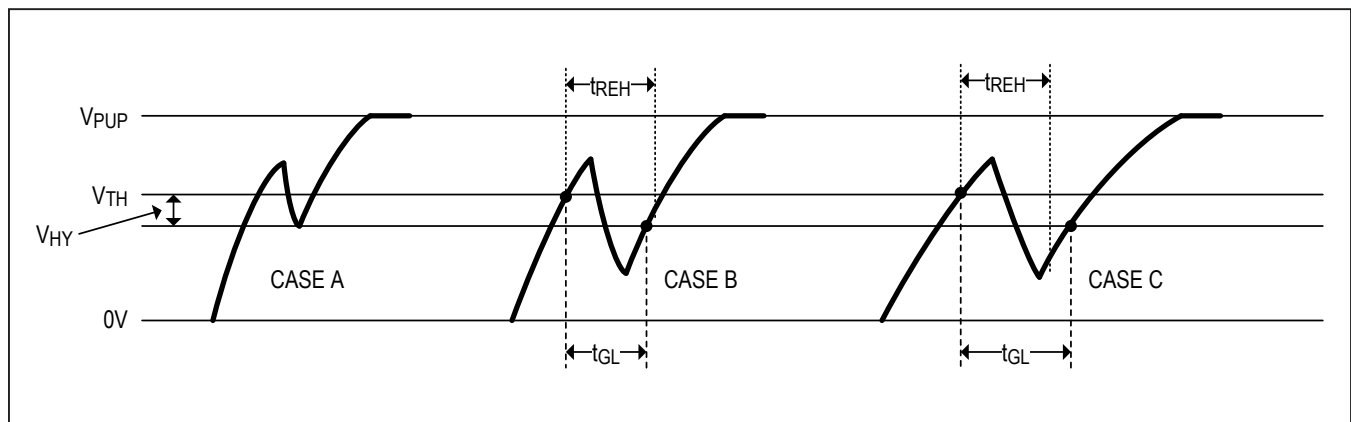

Figure 8. Noise Suppression Scheme
- There is a hysteresis at the low-to-high switching threshold  $V_{TH}$ . If a negative glitch crosses  $V_{TH}$ , but does not go below  $V_{TH} - V_{HY}$ , it is not recognized (Figure 8, Case A). The hysteresis is effective at any 1-Wire speed.
- There is a time window specified by the rising edge hold-off time  $t_{REH}$  during which glitches are ignored, even if they extend below the  $V_{TH} - V_{HY}$  threshold (Figure 8, Case B,  $t_{GL} < t_{REH}$ ). Deep voltage drops or glitches that appear late after crossing the  $V_{TH}$  threshold and extend beyond the  $t_{REH}$  window cannot be filtered out and are taken as the beginning of a new time slot (Figure 8, Case C,  $t_{GL} \geq t_{REH}$ ).